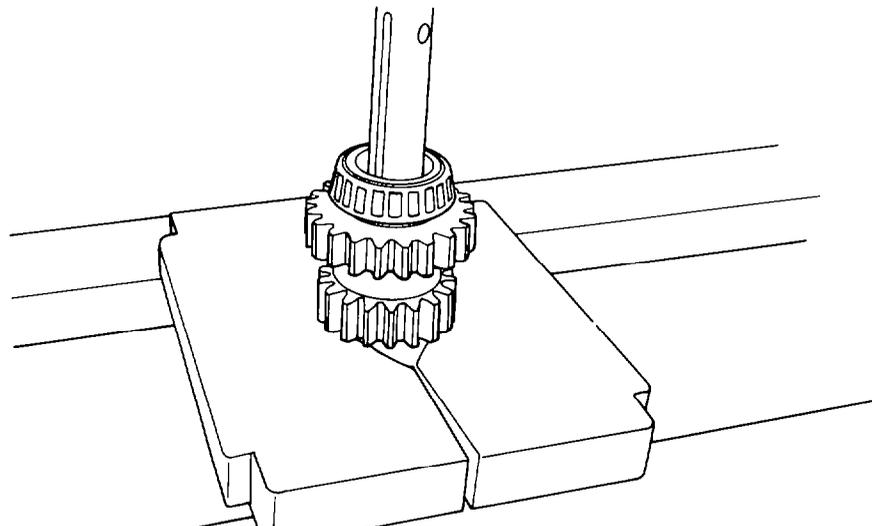

Fig. 400 — Removing Gear and Bearing from Countershaft
n. Position the countershaft in a press and press the gears, bearing and spacer from the shaft (see fig. 400).